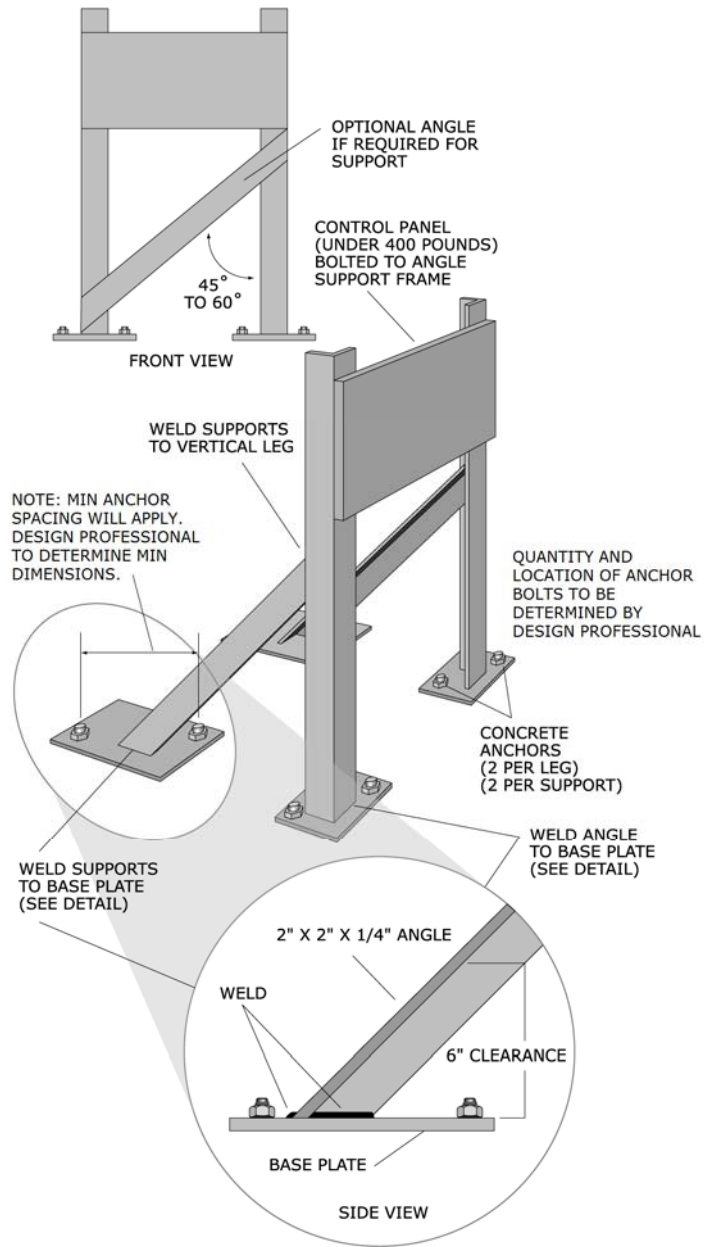

Figure 157: Angle assembly support from floor.
- Vertical angles or strut extending down to the floor with angles slanted back to the floor as shown in Figure 155 (page 125). This is the typical method. Details are shown in Figure 157 (page 126).
- To attach bases for angle floor-mounted supports, see Figure 157 (page 126)